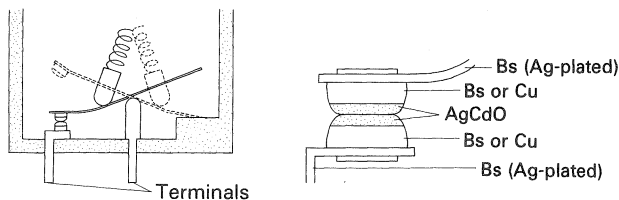

Fig. 3 Contact Point of Power Switch
Power switch connects or disconnects an AC power line to the primary winding of a power transformer. This switch has been so designed to stand high heat to deal with a large current which generates arcs and heat when switched. The contact pieces should, therefore, be made of a material which has a high melting point and should move quickly to minimize sparks, and the gap between the contact points should be wide enough to prevent the pieces from melting and sticking. If the gap is narrow or the operation is slow, the arc will continue for a long period. Fig. 3 shows a typical power switch. The contact points are made of silver cadmium oxide (AgCdO) and are operated quickly with the help of a spring. All Pioneer products employ power switches which have preliminary been approved by the authorities of safety standards in each country. Major safety standards are UL (USA), CSA (Canada), SEMKO (Sweden), DEMKO (Demmark), NEMKO (Norway), BS (GB), VDE (West Germany), EI (Finland) and SEV (Switzerland).